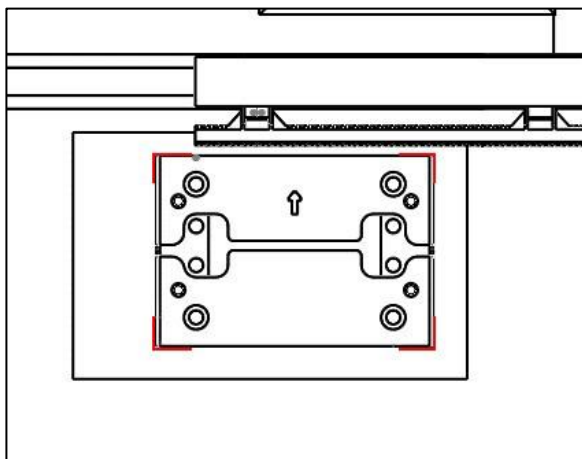

Fig 6
- Proceed to mark the (4) positions for your anchor bolts ready for drilling (refer to Fig 6).